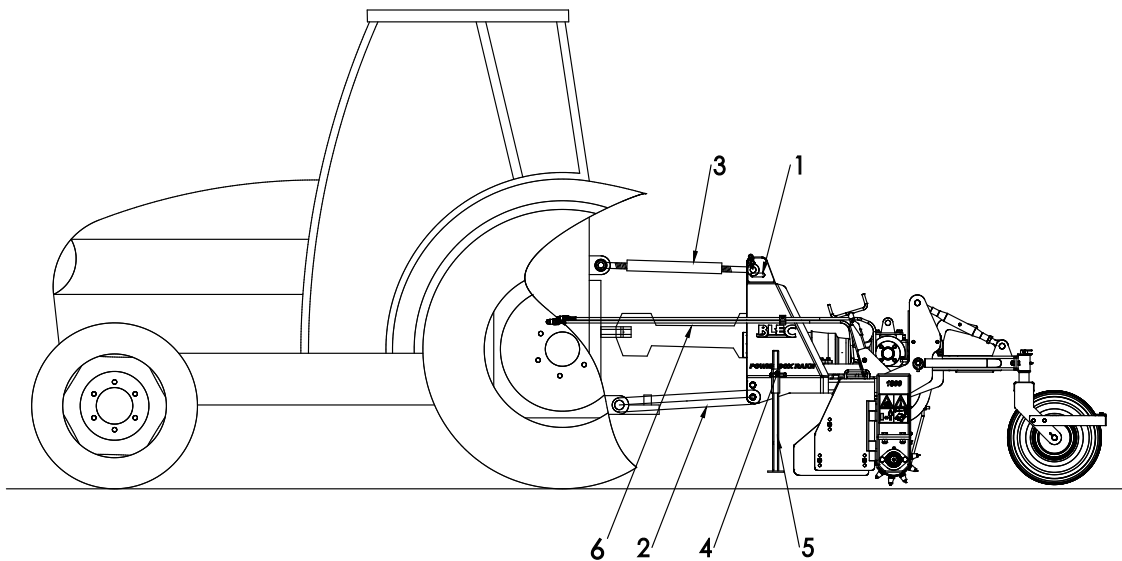

Figure 8
1. Remove the 3-point pins from the Power Box Rake **(1)** (see Figure 8).
The machine has to be detached in the following manner (see Figure 8):
7. To adjust the working depth, the wheels **(2)** can be put higher or lower by turning the spindles **(3)** (Figure 8). The settings can be seen on the indicators (Figure 9).